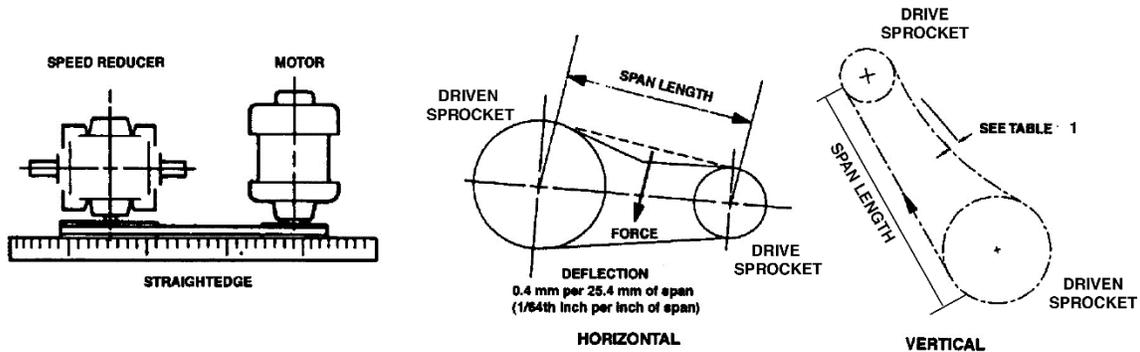

Figure 7: Reducer/Motor Alignment and Tension Adjustment
1. Check the sheave alignment between the motor and speed reducer by placing a straight edge across the face of the sheave faces (Figure 7). Inside and outside sheave diameters should be touching the straight edge at all four points as shown in the illustration. Alignment of the sheaves should be within ± 0.5 degrees or 1/8" per foot (3 mm per 0.3 m).
- Measure the span length as shown in Figure 7.
- Check belt tension by pressing firmly on the individual belt. A belt that can be depressed an amount equal to 1/64th inch per inch of span (0.4 mm per 25 mm of span) is properly tensioned (Figure 7).
1. Check sprocket alignment using a straight edge or taut cord stretched across the faces of the drive sprocket and the driven sprocket (Figure 7). The tolerance is ± 0.5 degrees or 1/8" per foot (3.5 mm per 0.3 m).
3. Check roller chain tension. Deflection of the span is shown in Figure 7 and Table 1.